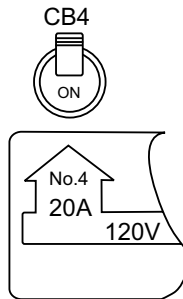

Figure 92. GFCI Circuit Breaker ON
2. Place the GFCI circuit breaker (Figure 92) in the **ON** position.